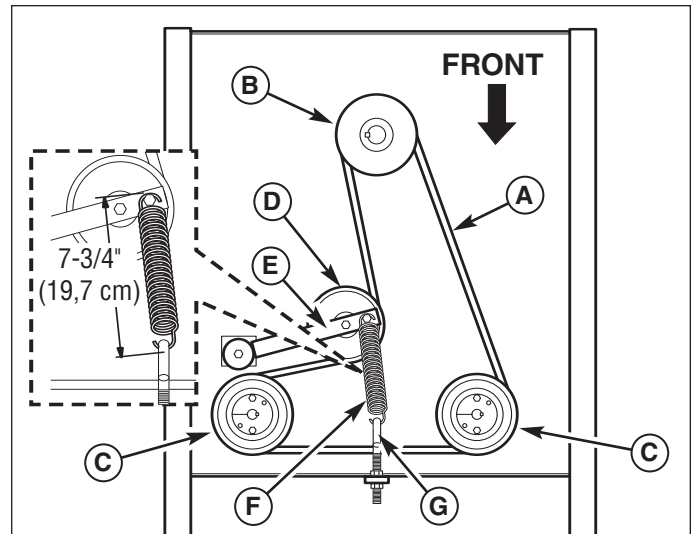

Figure 36. Hydraulic Pump Drive Belt Replacement
4. Loosen the nut towards the front of the machine on the spring anchor hook (G, Figure 36) to release the majority of the belt tension. Use caution and remove the nut to completely release the tension.
6. Reinstall the anchor hook (G) into the anchor tab and loosely fasten the nut. Adjust the anchor hook until a measurement of 7-3/4" (19,7 cm) is achieved from the outside of the spring hooks. Tighten nut.